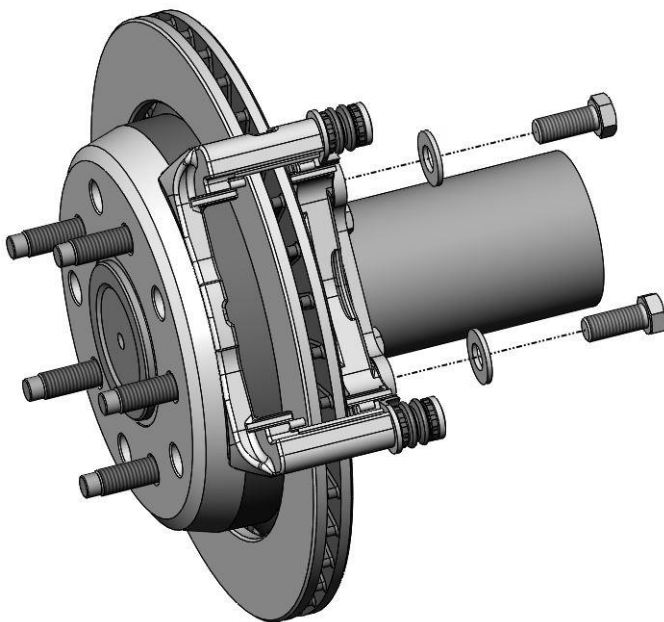

Figure 5a – Caliper Anchor Installation
9. Remove the Caliper Anchor bracket from the caliper by removing the M8-1.25 x 21mm Caliper Mounting Bolts from the cast-iron Anchor Bracket. Install the Caliper Anchor Bracket over the rotor and insert the Caliper Mount Spacer in between the Anchor and the Secondary caliper bracket. Using the provided M12 Flat Washers and M12-1.75 x 35mm Socket Head Cap Screws, install and torque the bolts to 80 lb/ft. Refer to Figure 5a and 5b below for reference on installing the caliper anchor and location of the spacer.